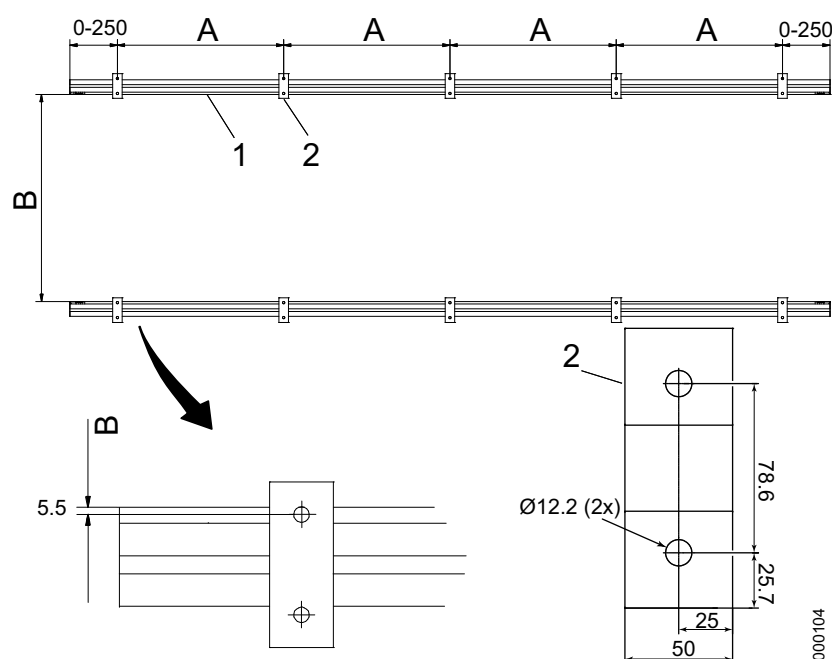

Fig. 4-4 Ceiling rails Y
The distance (A) between the fixation points depends on the length of the traverse rails Y, see **Fig. 4-4** and **Table 4-1**.
The distance (B) between the ceiling suspended unit rails Y is depended on the length of the traverse rails X, see **Fig. 4-4**.
The distance (B) between the distance plates is depended on the length of the traverse rail X, see **Fig. 4-4** and **Table 4-1**